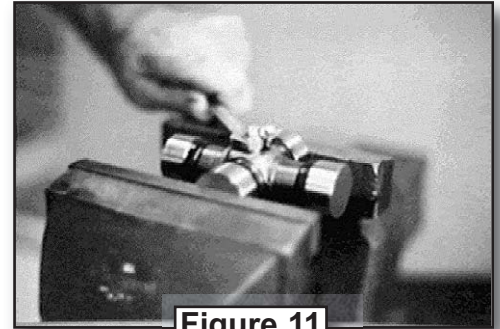

Figure 11
2. Install the grease fittings in the crosses. Align the grease fitting with the correct trunnions. Look at the old crosses. (See Figure 11).